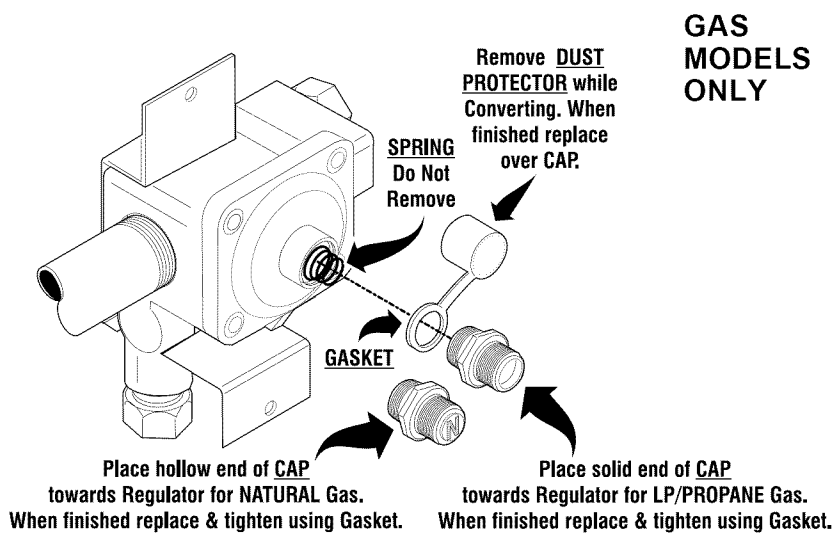
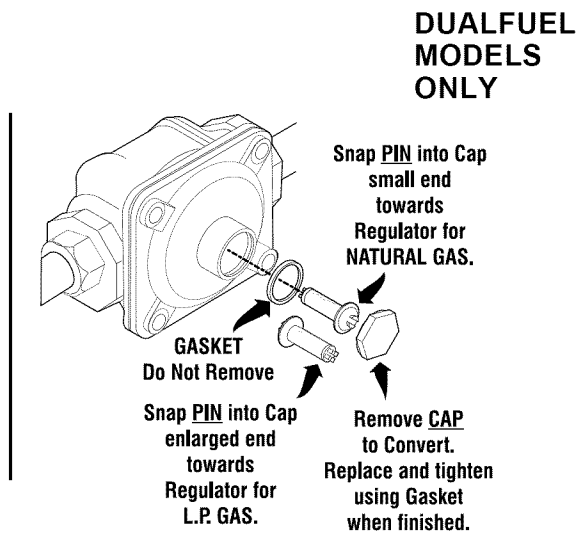

Fig. 3A
Fig. 3B
- Follow the remaining instructions provided in Fig. 3A for GAS models or Fig. 3B for DUAL FUEL models.
- Convert pressure regulator (See Step 1 and Fig. 3A for Gas models or Fig. 3B for Dual Fuel models).